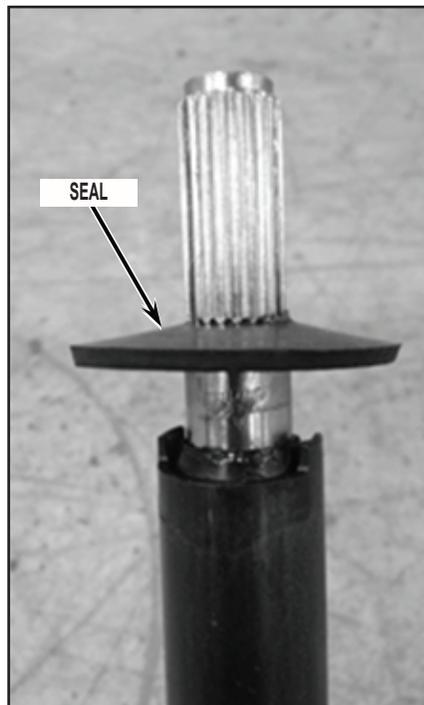

FIGURE 1
1. Install seal by pressing it down on agitator shaft until it sits on the chamfer. See *Figure 1*.